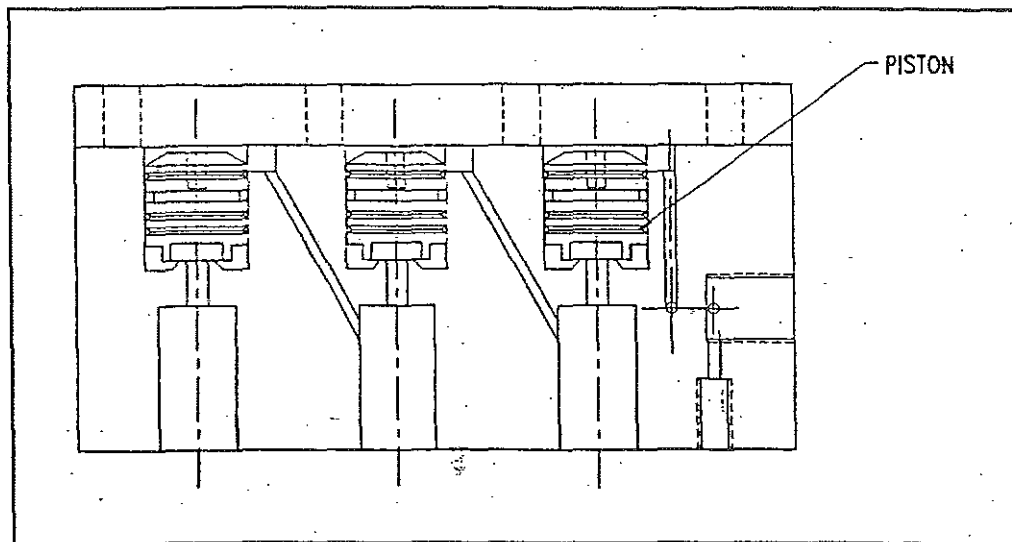

FIGURE 7-1 AUTO DRAIN (FOUR STAGE COMPRESSOR)
1. A bank of piston type valves that progressively open when a solenoid periodically dumps the pressure in the lowest pressure line (see Figure 7-1).